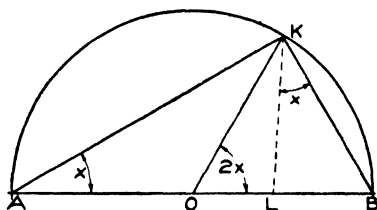

Fig. 17.
24. Let $\angle BAK = x$, be the given angle as shown in Fig. 17. On AB as diameter construct a semicircle. Draw KB , OK and draw $KL \perp$ to AB .